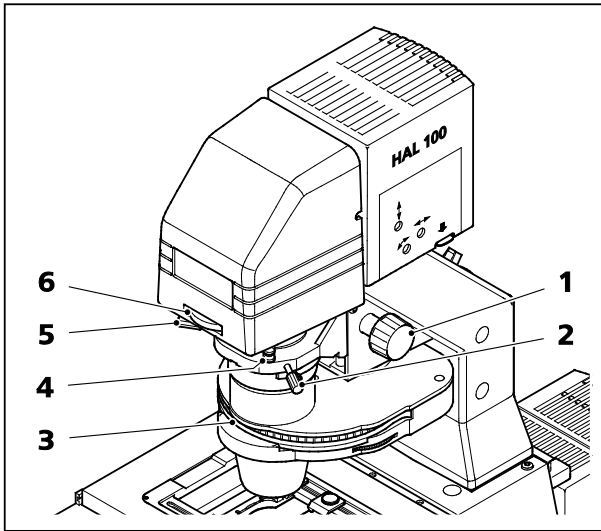
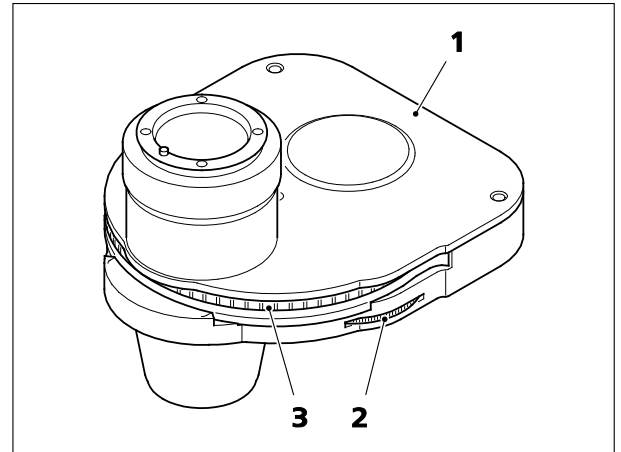
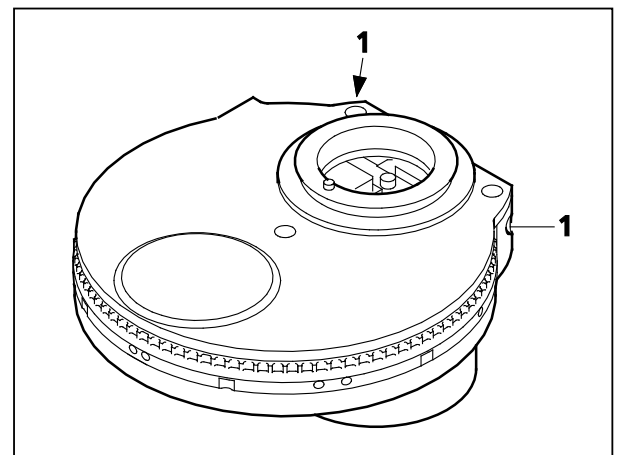

Fig. 64 Operating and function controls on transmitted light unit
Fig. 65 LD condenser 0.55 H, Ph1, Ph2, Ph3, DIC; 6 positions
Fig. 66 LD condenser 0.35, 6-position, H, Ph0, Ph1, Ph2, DIC, DIC
Vertical adjustment knob for condenser (Fig. 64/1)
Centering screws (Fig. 64/2 or 5) for the condenser (Fig. 64/3)
3-position filter changer, polarizer D with 2-position filter changer or polarizer D, rotatable, with color glass holder (Fig. 64/4)
Knurled wheel for luminous-field diaphragm for transmitted light (Fig. 64/6)
Manual condensers (Fig. 64/3), (Fig. 65 and (Fig. 66)
Depending on the version, condensers (Fig. 65/1) are equipped with the following:
- The aperture diaphragm (iris diaphragm) is opened and closed using the knurled knob (Fig. 65/2)
- Rotate the turret wheel (Fig. 65/3) to swivel the brightfield insert or contrast stops into the optical path
- The condensers 0.35 and 0.55 for phase contrast require the use of one 1.5 mm Allen screwdriver each (plugged in at Fig. 66/1) to center the phase stops